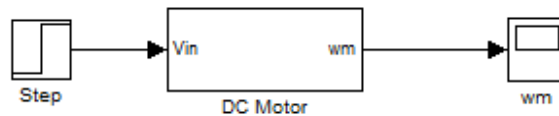

Figure 2.19: Motor model subsystem
3. Rename the input and output from the subsystem block. Connect the *Step* and *Scope* to the new subsystem and test the model to ensure that it is still functional. Your motor model should now resemble Figure 2.19.